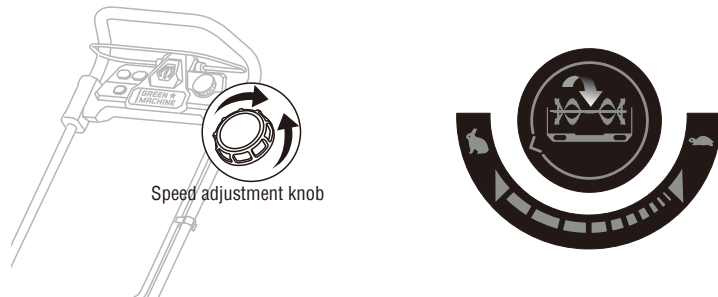

Fig.9
1. To increase the speed, rotate the speed adjustment knob towards the rabbit symbol to throw the snow farther. (Fig.9)
2. To decrease the speed, rotate the speed adjustment knob towards the tortoise symbol to throw the snow nearer. (Fig.9)